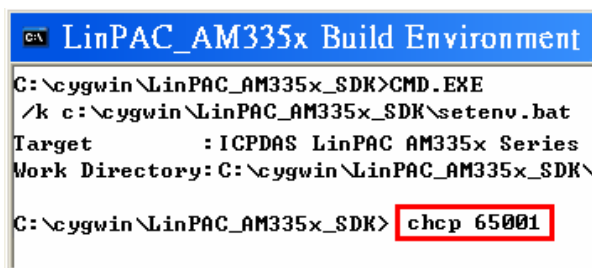
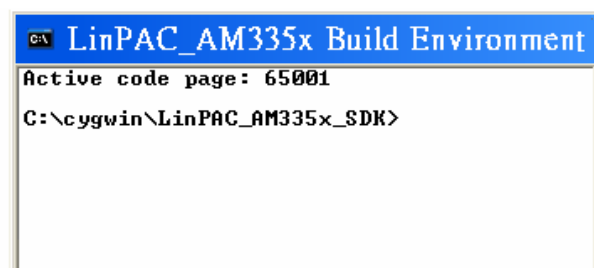

Fig. 2-23
Fig. 2-24
- ❑ Type command: **chcp 65001** (Refer to Fig. 2-23 and Fig 2-24).